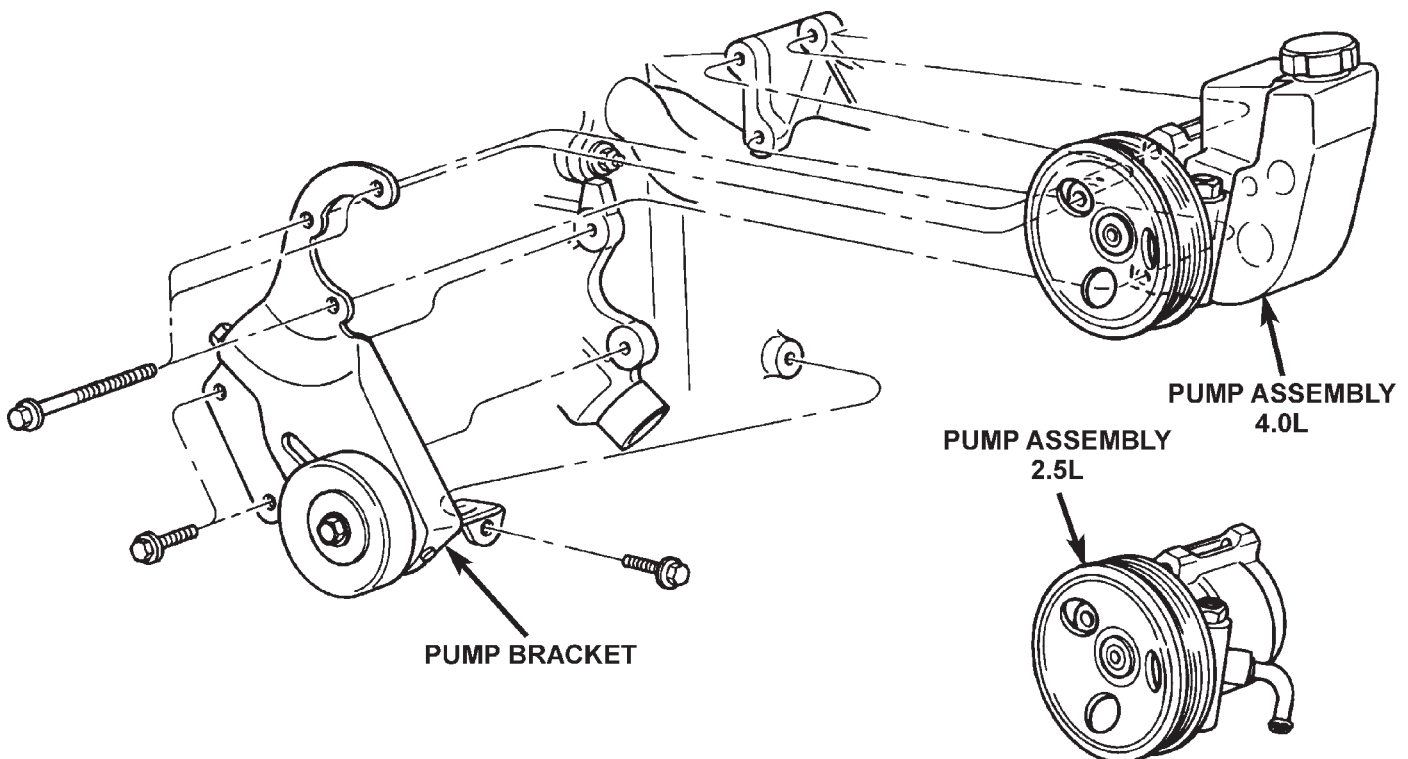

Fig. 3 Pump Mounting
(1) Remove serpentine drive belt, refer to Group 7 Cooling.
(2) Remove pressure and return hoses from pump and drain the pump.
(3) Remove 3 pump mounting bolts through pulley access holes.
(4) Loosen the 3 pump bracket bolts (Fig. 3).
(5) Tilt pump downward and remove from engine.
(6) Remove pulley from pump.